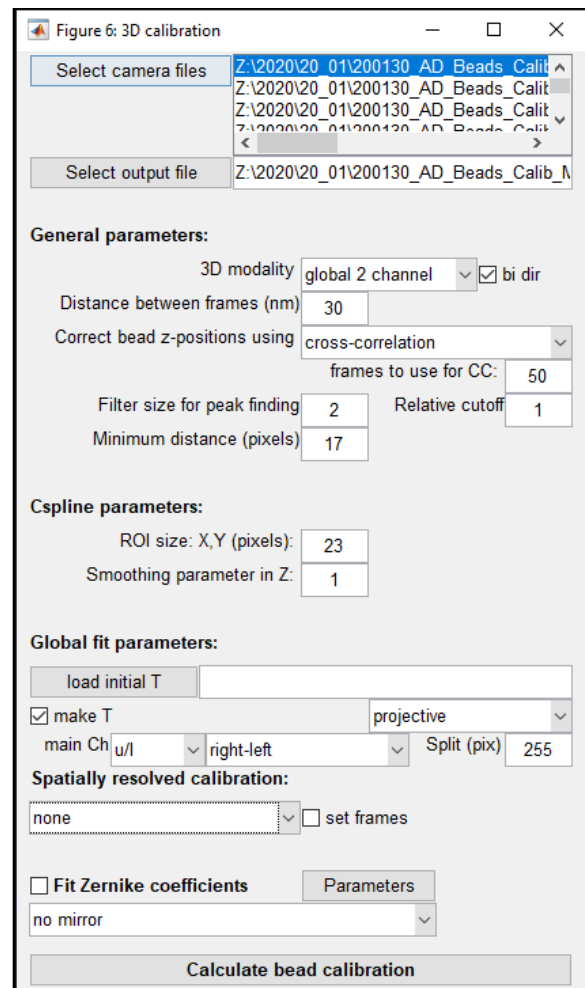

Figure 1: '*calibrate3DsplinePSF*' GUI
5. Set the parameters according to Figure 1.